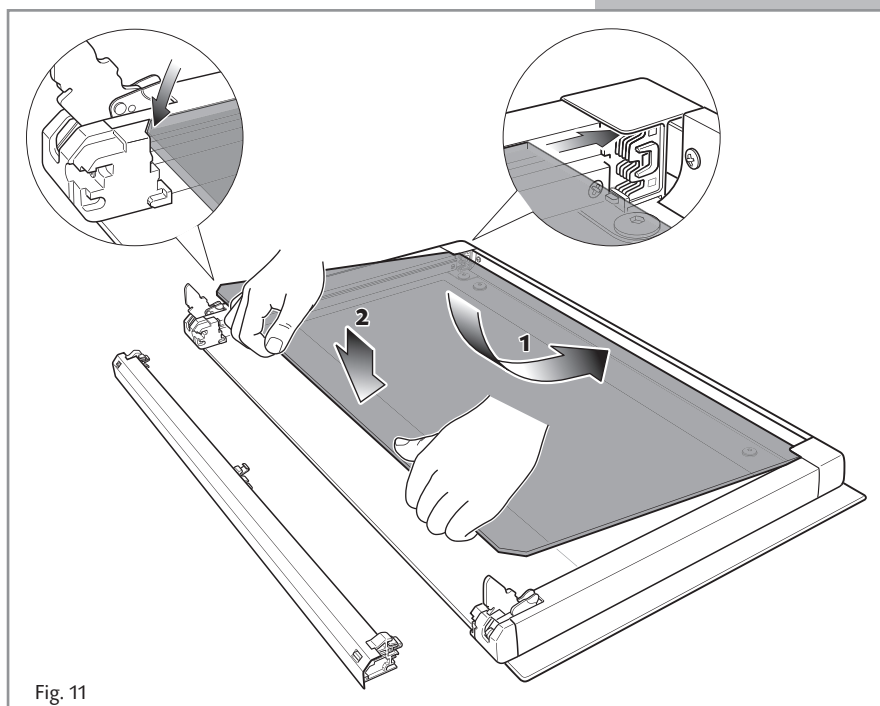

Fig. 11
1. Insert the inner glass pane in the uppermost pair of grooves and push it slightly (arrow 1 in figure 11).
2. Gently lower into place (arrow 2 in figure 11).